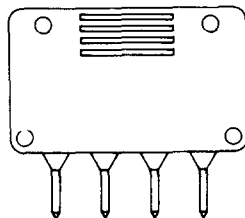

Fig. 17—422A Plug
**2.17 422A:** The 422A plug (Fig. 17) consists of a shell of black insulating material, equipped with four pin-type terminals. The 422A plug is designed to be inserted into four KS-14172, L1 jacks and forms part of the L4BP cord.